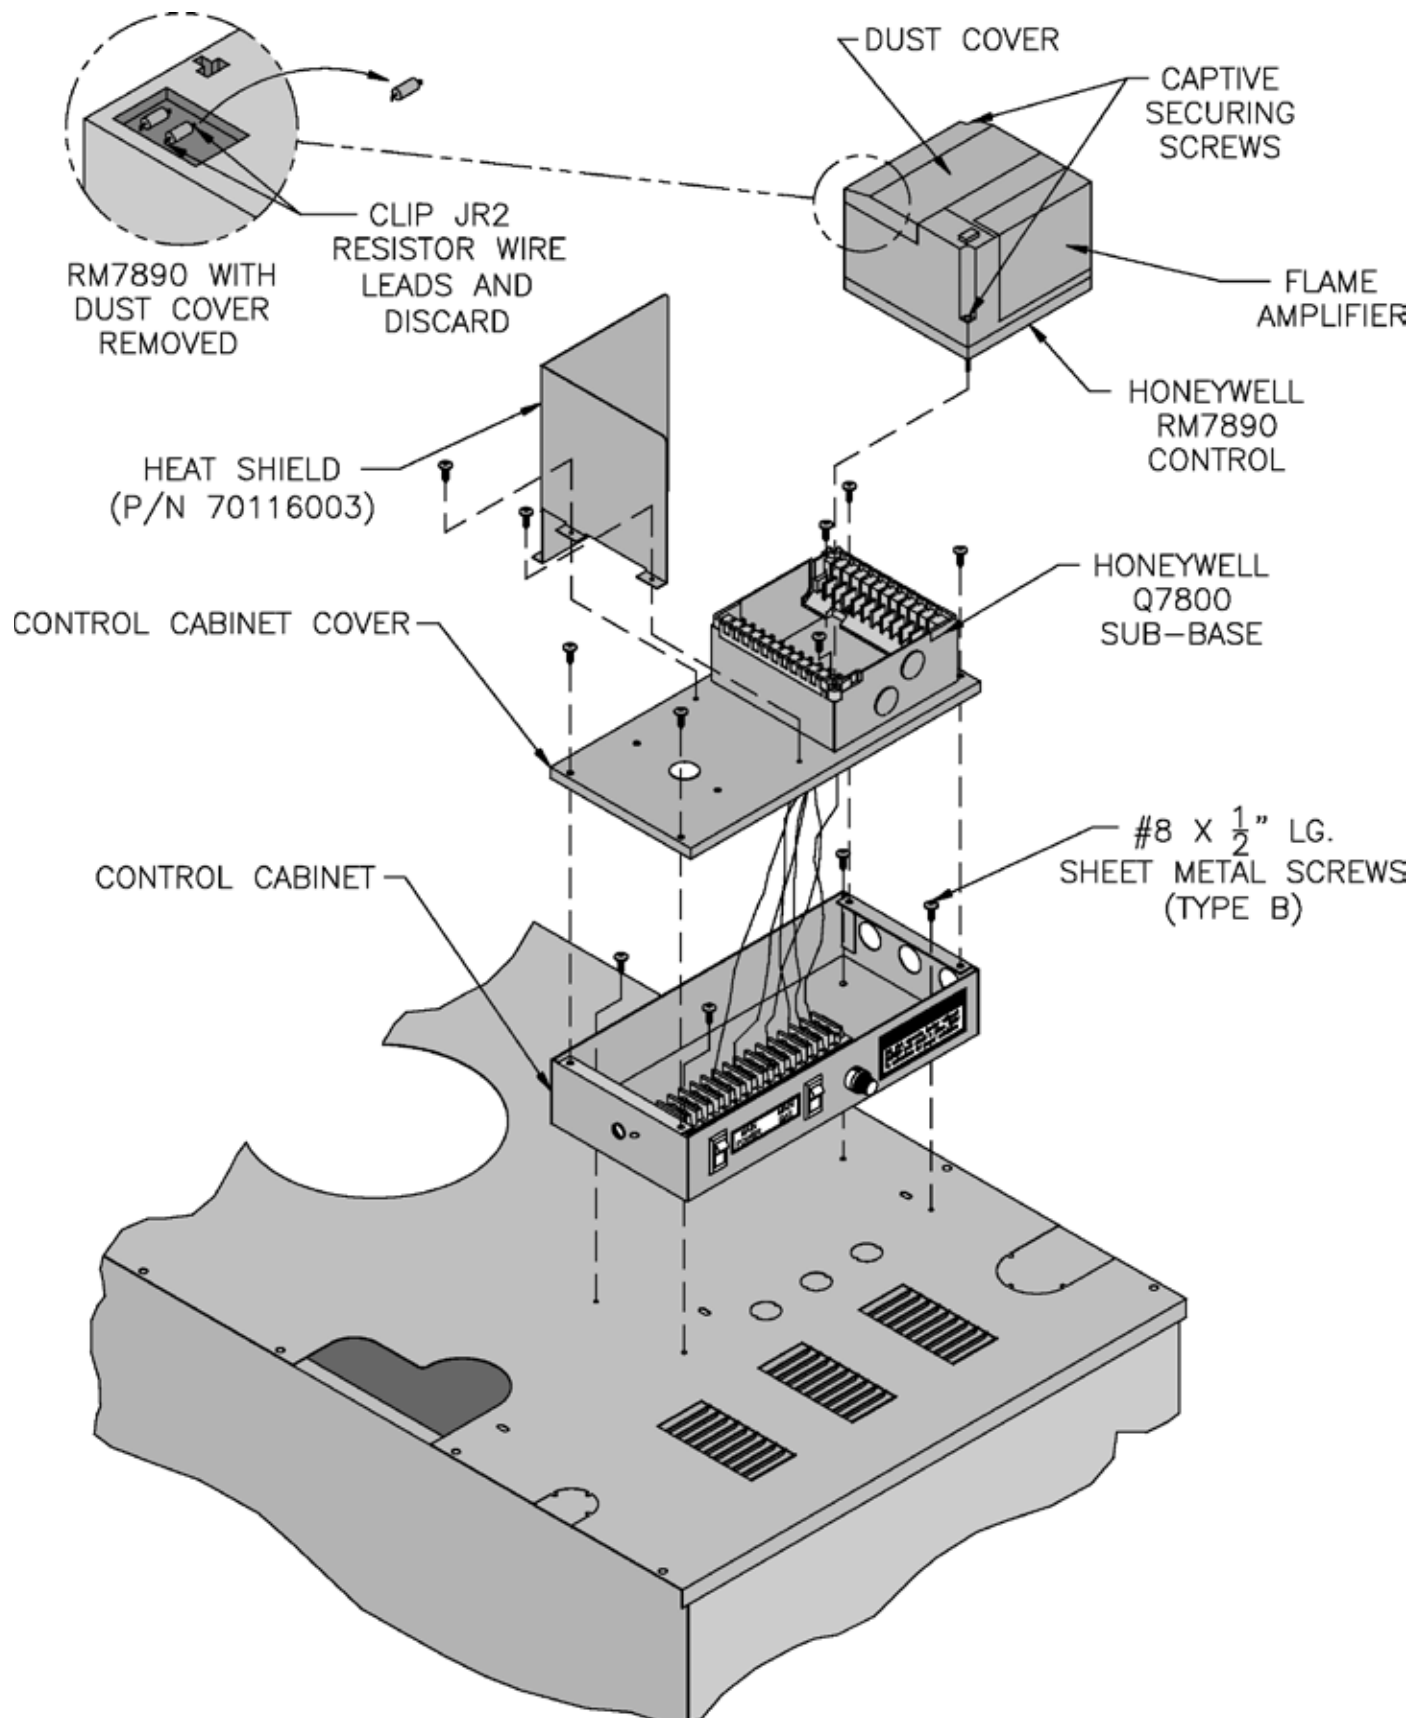

Figure 9: EP/OP Control Installation
U. EP and OP System: See Figure 9.